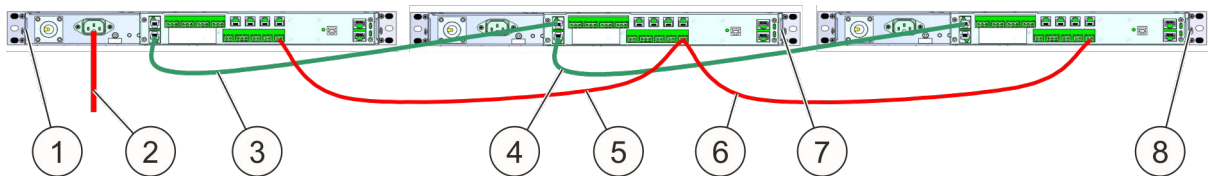

Fig. 47: Energy supply and data line
1. ➤ Connect the mains supply (Fig. 47 /2) of 100 – 240 V/AC to the Master (Fig. 47 /1).
2. ➤ Establish the power supply (Fig. 47 /5) between Master and first Slave (Fig. 47 /7). See also ↪ Chapter 3.3.7 „Power supply” on page 26.
3. ➤ Establish the power supply (Fig. 47 /6) between first Slave and next Slave (Fig. 47 /8).
5. ➤ Connect the CAN bus connecting cable (Master/Slave) (Fig. 47 /3) between Master and first Slave.
6. ➤ Connect the CAN bus connecting cable (Master/Slave) (Fig. 47 /4) between first Slave and next Slave.